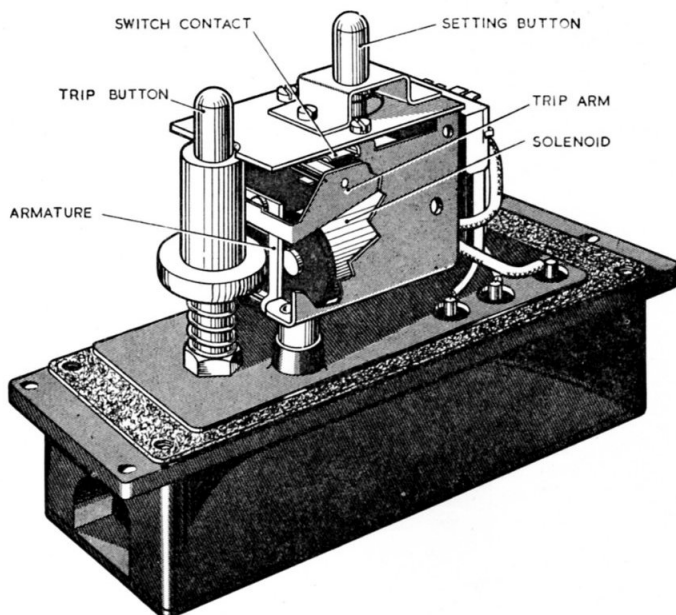

Fig. 2. Interior of switch
3. The mechanism (fig. 2) consists of a solenoid with a pivoted armature and four pairs of switch contacts. The contacts are arranged with two pairs of contacts located above and two pairs below an insulating rod carried by the U-shaped trip arm. The trip arm assembly is pivoted at one end and extends round the armature at the other end of the unit. When the trip arm is in the upper or tripped position, as shown in the illustration, the two upper pairs of contacts are closed and the lower two pairs are open.